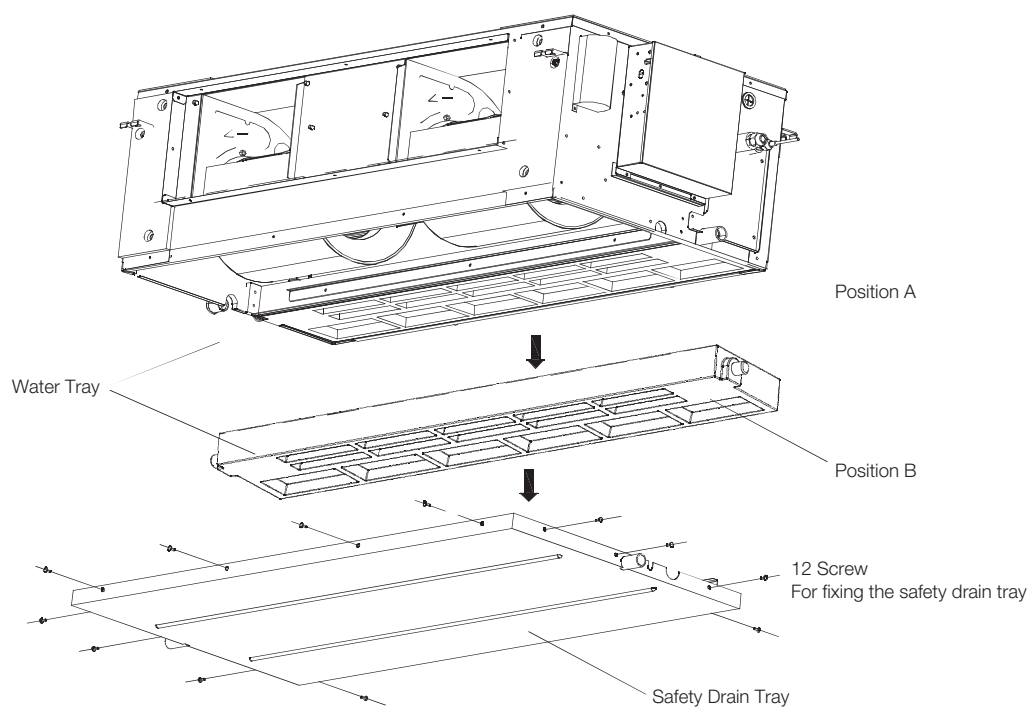

Fig.4-16
2. Remove the all 11 screw from fixed Safety Drain Tray, and then take off the tray as figure showed in Fig.4-16.
3. Take off the tray along the direction of the arrow show in Fig.4-16